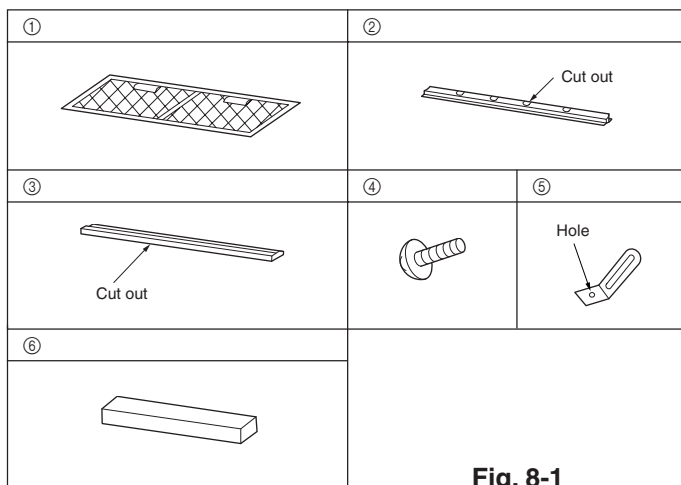
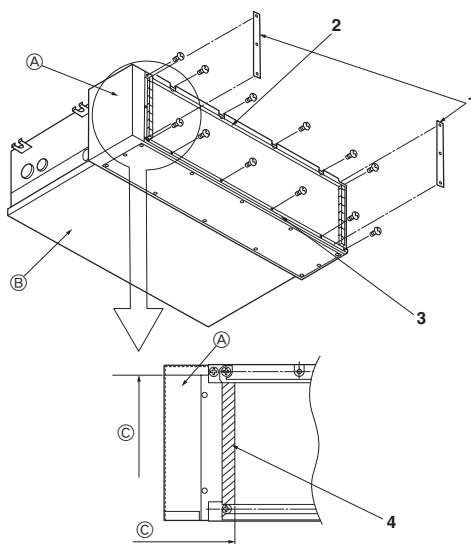

Fig. 8-1
Fig. 8-2
8.1. Confirmation of enclosed parts (Fig. 8-1)
- ① Filter × 1
- ② Filter rail × 1
- ③ Filter rail × 1
- ④ ST screw (4 × 10) × 14
- ⑤ Clamp × 2
- ⑥ Seal × 2
8.2. Filter rail installation (Rear air intake) (Fig. 8-2)